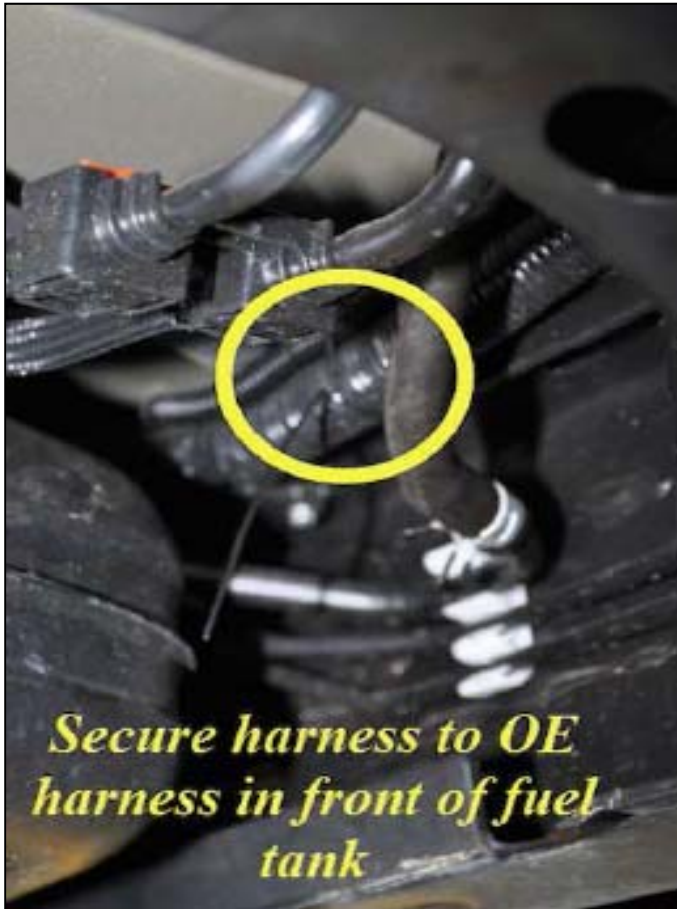

Figure 13
13. Secure the bed light LED wire harness to the OE harness in front of the fuel tank using wire ties. See Figure 13.